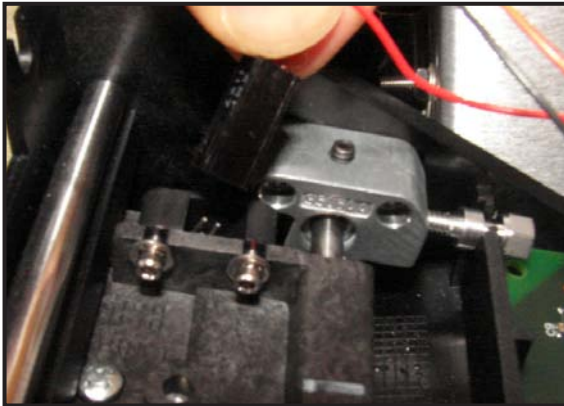

Figure 6-51
- a. Disconnect the paper-out sensor cable from its connector on recorder assembly (See Figure 6-51). Make a note of the orientation of the connector for proper re-installation.